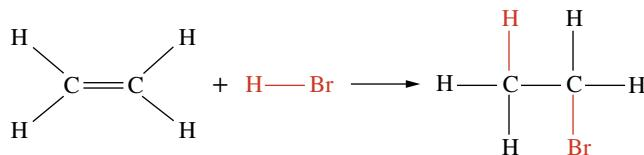

FIGURE 11.3.9 The reaction between ethene and hydrogen bromide. This is an example of an addition reaction between an alkene and a hydrogen halide.
- the atoms of the small molecule adding to the alkene are ‘added across the double bond’, so that one atom or group from the molecule forms a bond to each of the carbon atoms in the double bond. This can be seen in the reaction of hydrogen bromide with ethene in Figure 11.3.9.